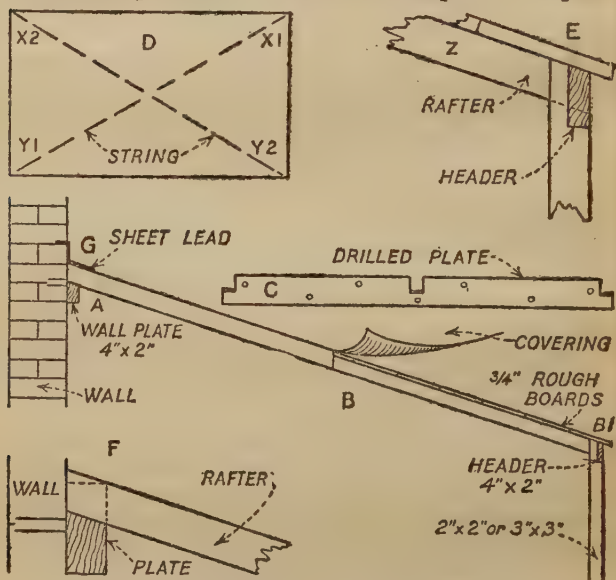
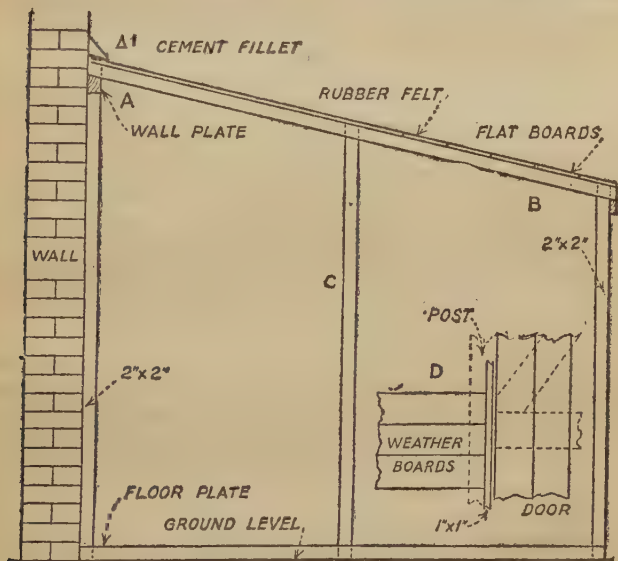

Fig. 1—DETAILS OF ROOF OVER LEAN-TO
Fig. 2—DETAILS OF LEAN-TO SHED
**Roof Only.**—In all these erections the key to strength and therefore the member which may cause trouble is the wall-plate, shown at Fig. 1, A. This holds the roof back to the wall, and any negligence in fixing it will recoil on the head of the householder.
Across the top of the two posts and exactly horizontal is to be fixed with halved joints a length of 4 in. by 2 in. on edge (Fig. 1, B). At a point precisely horizontal to this front header and level with the top edge, mark the wall at each end and measure about 1 ft. 9 in. above. This is where the top edge of the wall-plate is to come; the point can be moved a little up or down if a more convenient line can thus be found. A guide for the line of this plate is furnished by parallel joints in the brickwork. Note that, as mentioned later, a steeper pitch must be provided if weather-boarding is to be used as a roof covering.
The end positions of the wall-plate are found, and squareness ensured, by equalizing the distance between the diagonals as at Fig. 1, D, with stout string stretched from Y1 and Y2 to X1 and X2.
off the top and bottom faces and cut to the marks. Again lay them on, when they should touch the wall nicely at the top ends. Lay them square, using the "diagonal" method shown at Fig. 1, D, and mark and cut the header to allow the top surface of the rafters to drop in tightly, level with the top of the header at its front edge. The joints are shown at E. The ends z may be left on or cut off as desired. The top joints are as at F.
and header with  $3\frac{1}{2}$ -in. screws, which have been dipped in paint before fixing. Sawn or planed boards are then laid parallel to the wall. They should be quite dry when laid or they will shrink and look ugly from underneath as well as allowing the roof covering, if soft, to sag in the cracks. The last board laid—over the header—must project over the front about 1 in., as at B1 (Fig. 1). The
each joint. The top can be finished off neatly and soundly by cutting a piece of sheet lead 9 in. wide to lay on top of the covering; it goes up the wall face and is inserted in the pointing or joint of the brickwork (G, Fig. 1). A cheaper job is a cement fillet, shown at Fig. 2, A1. At the ends the covering is carried over the edge and galvanized nails fix it to the end rafters. A gutter may be fixed, if necessary, and temporary enclosure can be effected with eyeleted canvas hung on hooks all round.
**Lean-to Shed.**—The same roof may be completely enclosed by permanent walls of timber framework lined with asbestos cement sheeting, weather-boarding, or matchboarding. If the latter be used, the framework should be horizontal as much as possible and the boards vertical, while with the other forms the framing is perpendicular. We will deal with weather boards. Fix securely with rawlplugs a 2-in. by 2-in. upright on the wall in line with the end of the wall-plate, and lay and fix a floor-plate (*see* Fig. 2). Cut and joint in the strongest manner possible a post, as at c, Fig. 2. All end faces of the frame should be in alignment with each other.
Commencing at the bottom the weather-boards can be fixed. The door must be arranged for, and be placed at one end or at the front. The end is better, as there is more height, and no gutter to interfere with the frame. The front is the best location for windows, and better light will be obtained there. Where a door comes, the ends of the weather-boards are terminated in the middle of the post and a piece of 1-in. batten is nailed at the square-cut ends of the boards to form a neat finish (Fig. 2, D). Posts must be inserted for windows, and a drip sill provided beneath them to carry off rain.